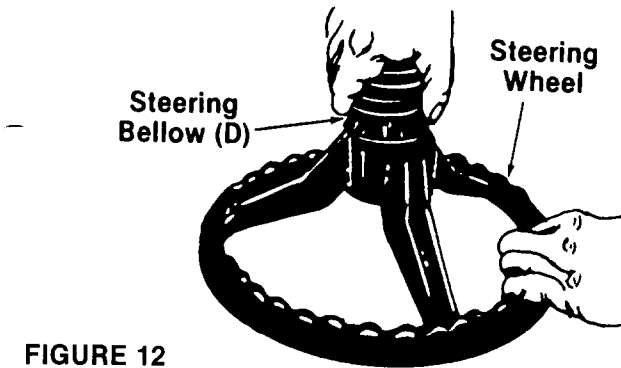

FIGURE 12
2. Attach steering bellow (D) to the steering wheel as shown in figure 12.